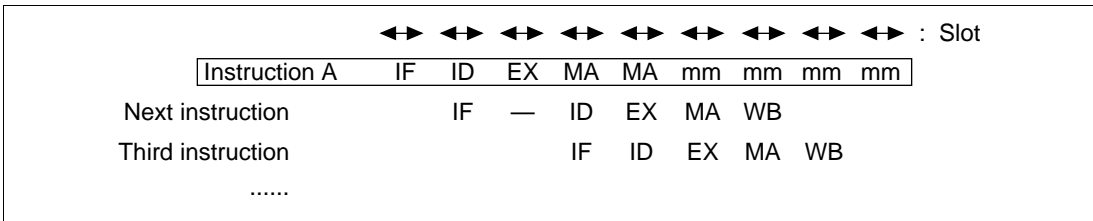

Figure 7.72 Multiplication Instruction Pipeline
The pipeline has nine stages: IF, ID, EX, MA, MA, mm, mm, mm, and mm (figure 7.72). The second MA accesses the multiplier. The mm indicates that the multiplier is operating. The mm operates for four cycles after the MA ends, regardless of slot. The ID of the instruction following the DMULS.L instruction is stalled for 1 slot (see the description of the Multiply/Accumulate instruction). The two MA stages of the DMULS.L instruction, when they contend with IF, split the slot as described in section 7.2.1, Contention between Instruction Fetch (IF) and Memory Access (MA).